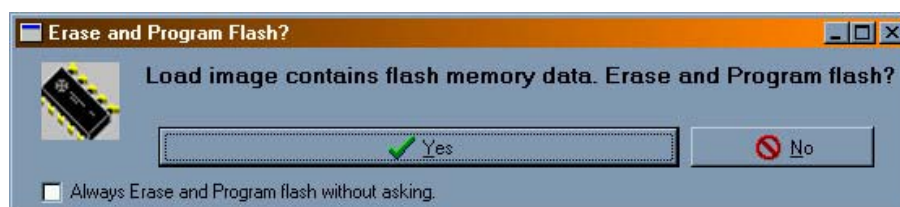

Figure 1-22. Programmer Erase and Program FLASH Window
28. Click Yes in the Erase and Program FLASH window. See Figure 1-22.